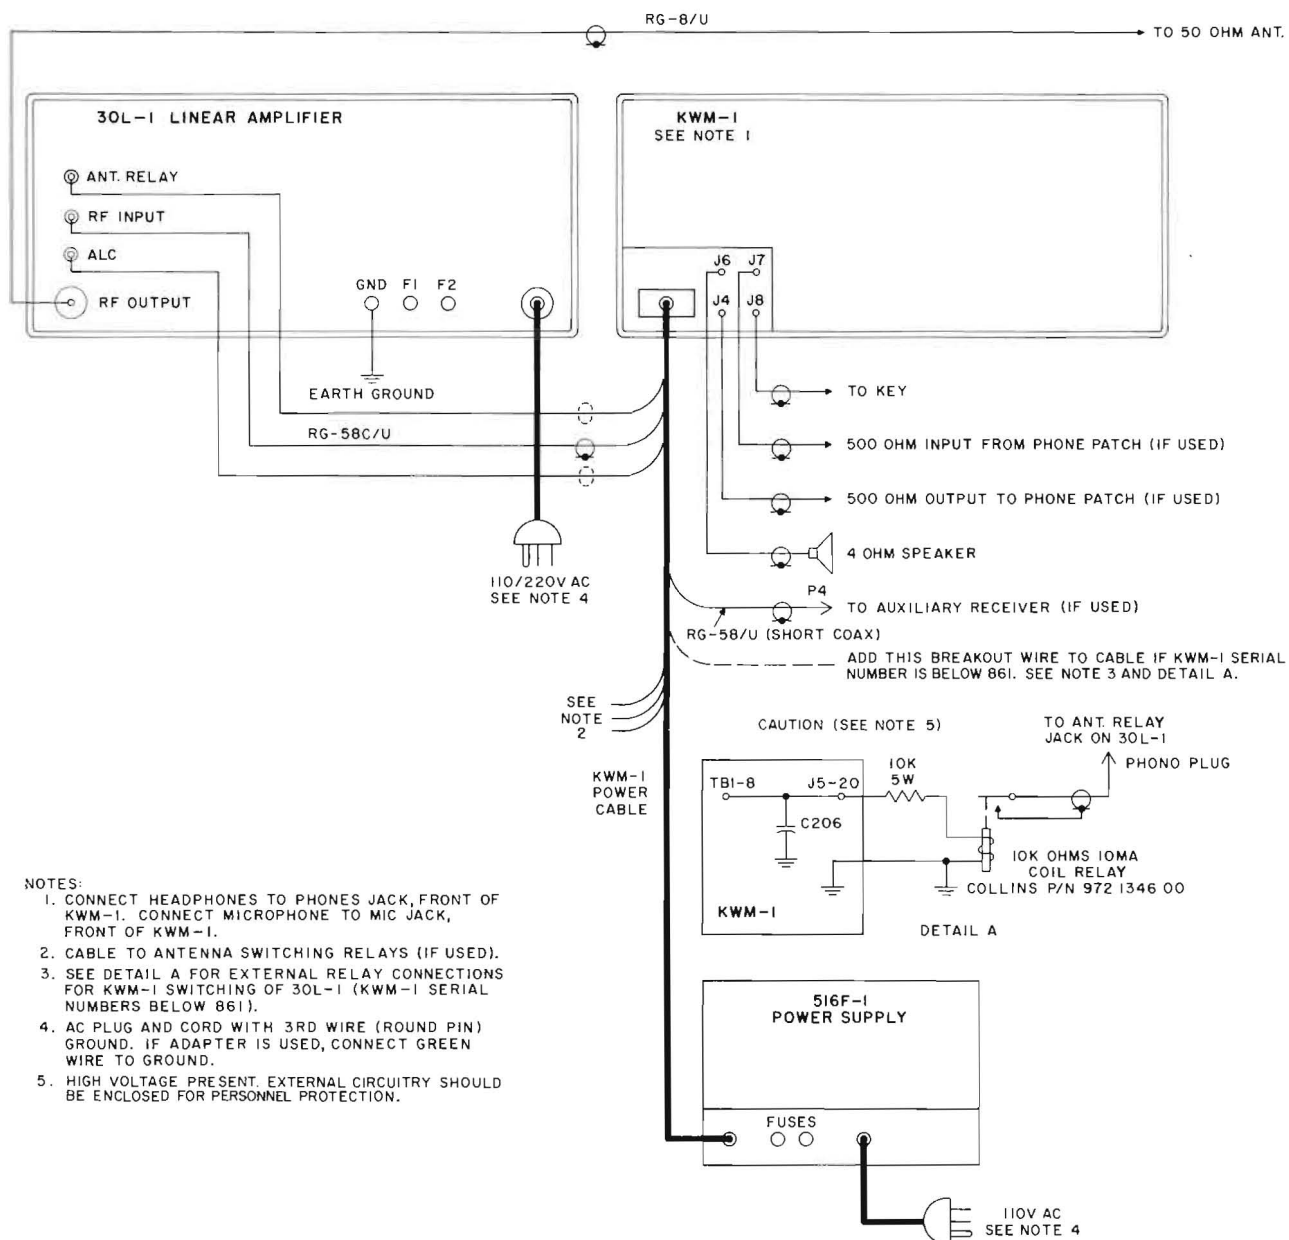

Figure 1-3. Interconnections with KWM-1
If KWM-1 models above serial number 861 are used with the 30L-1, it will be necessary to bring out alc and "ground-on-transmit" connections from the S16F-1 power cable plug, P-1, as shown in figure 1-3. Make the alc connection to terminal 19, and the "ground-on-transmit" connection to terminal 20. Use a shielded wire, and connect to 30L-1 ALC and ANT. RELAY jacks with phono plugs.
- f. Refer to figure 1-3, Detail A. External to the KWM-1, connect a 10,000-ohm, 5-watt resistor and a